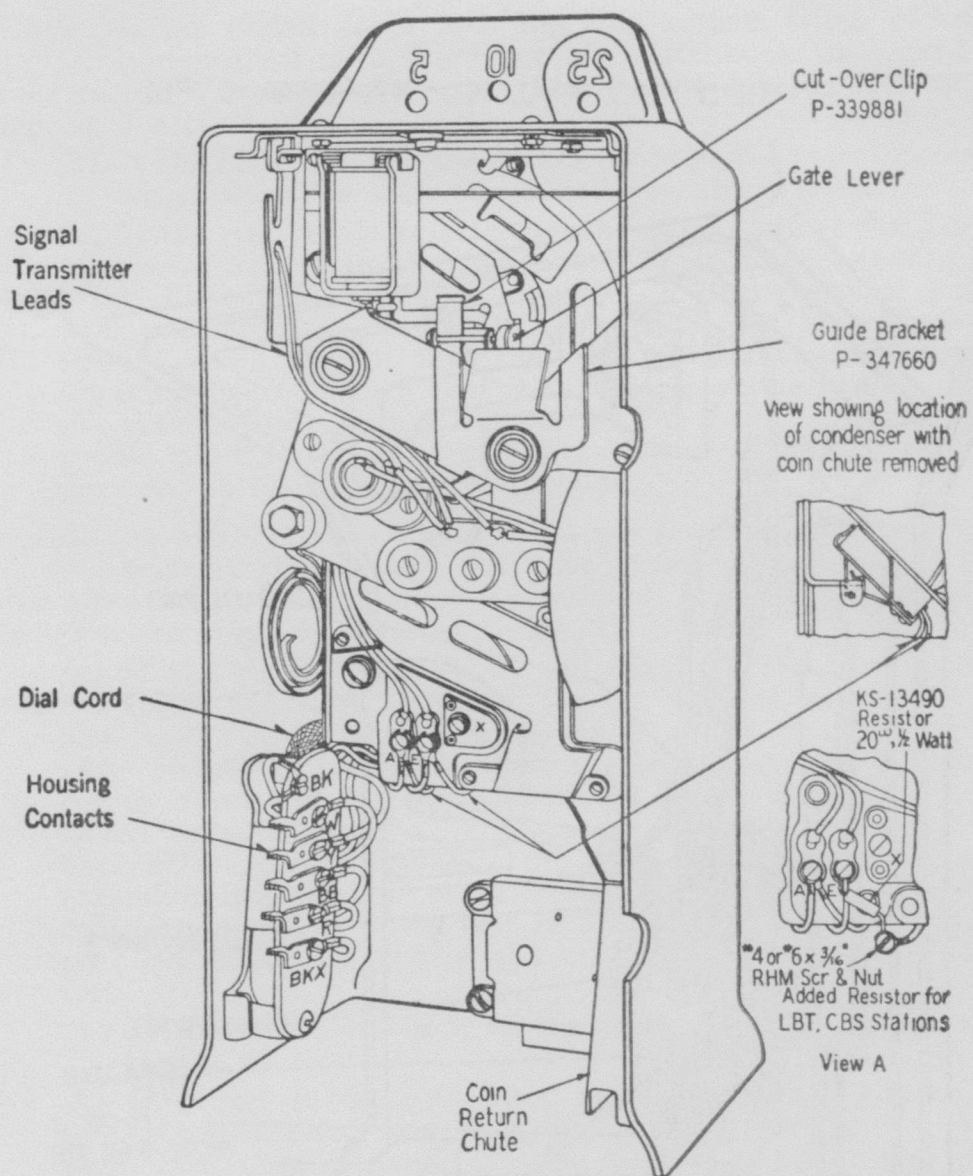

Fig. 1—Upper Housing—191-Type Coin Collector
(c) If the nickel is on the trap, around the relay or stuck on quarter runway return or remove coin. Then manually hold in the gate lever roller on chute as far as it will go, with upper housing vertical, and deposit nickel. Make test five times. If the nickel is **not ejected from the chute through the open gate each time, or sticks in the chute anytime, replace the coin chute**. If the nickel is ejected through gate and does not stick in chute, adjust the gate operating arm on the switchhook downward approximately 1/16" with the aid of long nose pliers. Check that bracket P-347660 is in place as shown on Fig. 1. Lock upper housing in place on coin collector and observe that switchhook comes to a full stop downward due to weight of hand set when placed on switchhook. Repeat the tests in 2.01. If it fails repeat the above adjustment and tests.
- (a) If the nickel is stuck in the chute at the first gate, check that the cut-over clip is present and is not distorted. The cut-over clip should be of the type 3/8 inch wide, should be located against the left-hand gate bearing lug as shown in Fig. 1, and should firmly hold the arm which extends from electromagnet armature toward the back of the coin chute, with the bent-over tab on the arm extending into the coin chute. If necessary adjust or replace cut-over clip and repeat test in 2.02. If this does not correct the sticking, replace the coin chute and repeat all tests.
- (d) Reconnect coin chute in accordance with connection diagram in Section C64.236 and dress cording as in Fig. 1 of this section.